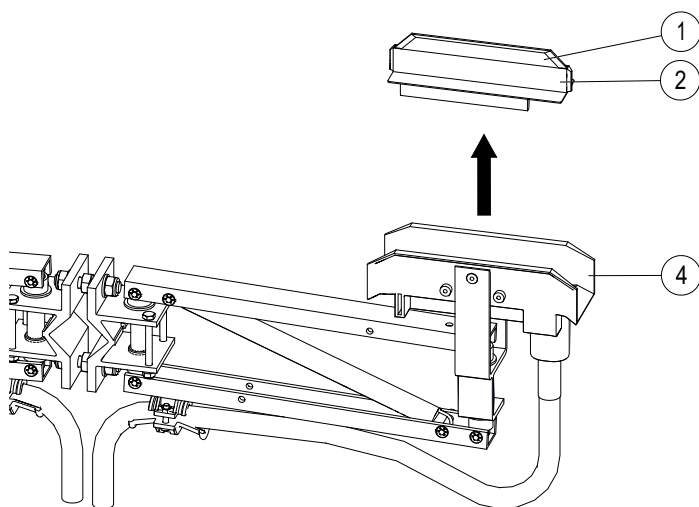

Fig. 121: Remove sliding contact (item 1) and plastic insulator (item 2)
To replace the sliding contact (item 1) (see Fig. 121), the following steps must be carried out: